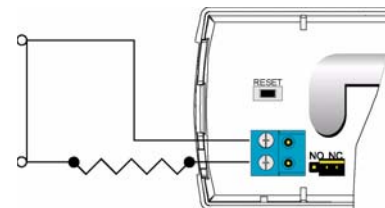

Figure 5 Wired for N/C operation
11. Use 22 AWG wire to wire the 2.2K ohm resistor in series with the N/C contact per Figure 5. The distance from the external contact to the EN1215WEOL must not exceed 10 feet (3 meters).